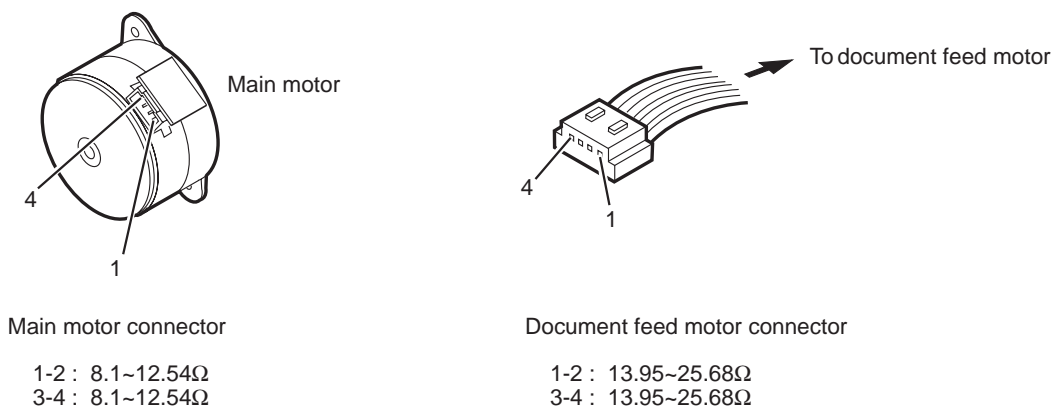

Figure 4-4 Main Motor/Document Feed Motor Connector
- (1) Check the connection between the main motor and the PCNT board (J401).
- (2) Check the main motor's resistance. 8.1 ~ 12.54 Ω /1 phase is normal. (*Fig. 4-4*)
- (3) Replace the main motor.
- (4) Replace the PCNT board.
- (5) Replace the SCNT board.